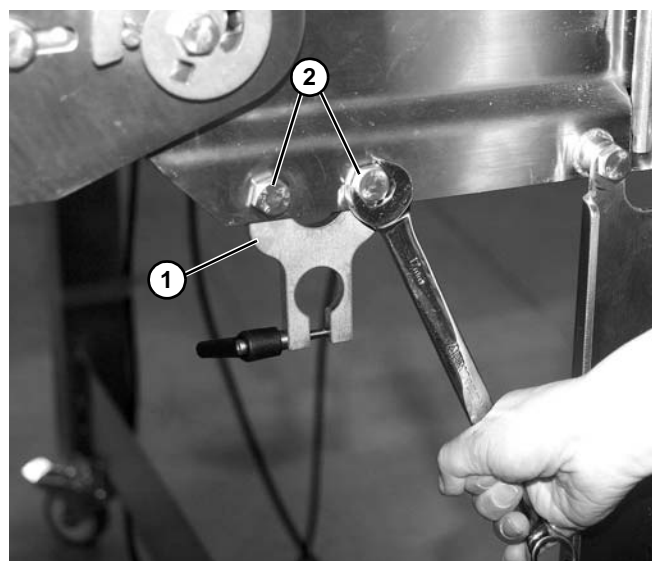

Figure 39
1. Install scraper mount plate (**Figure 39, item 1**) with two screws (**Figure 39, item 2**). Repeat on opposite side for scraper adjust plate.